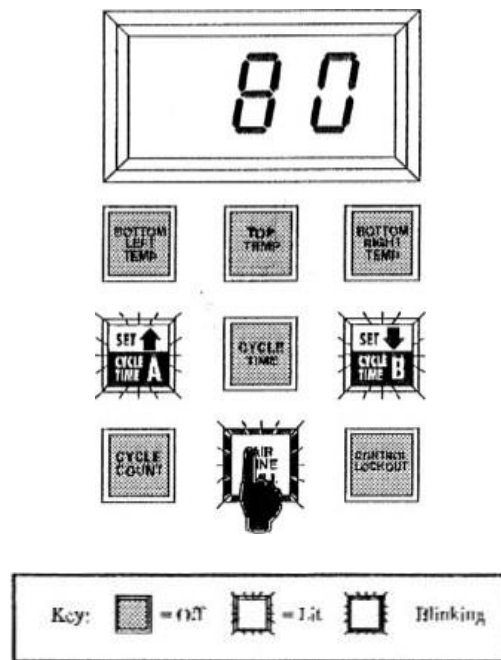

Figure 9-1
- While the control panel is in Monitoring Mode, press and hold the Air Line PSI button. After approximately two seconds, the panel's Up Arrow and Down Arrow buttons will light and the Air Line PSI button blinks, as shown in Figure 9-1. This puts the control panel in the Set Mode. Release the Air Line PSI button. The control panel displays the current pressure lockout setting.